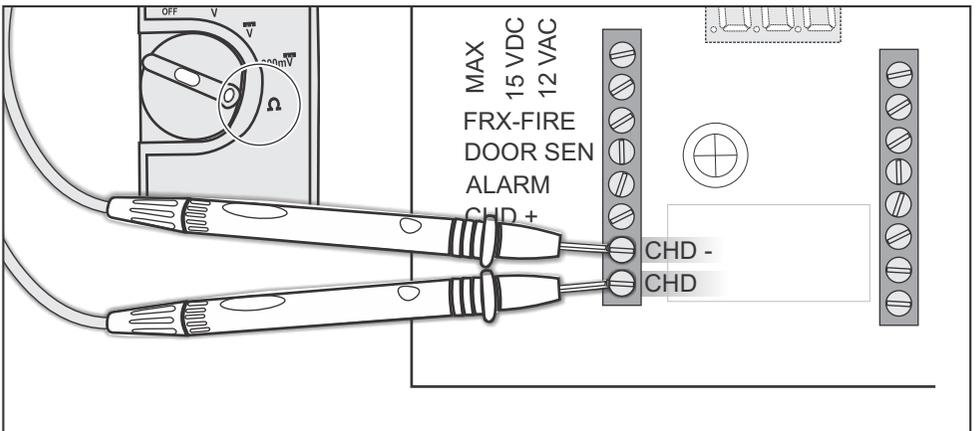

Figure 6 Multimeter connected to CHD- & CHD
2. Connect the multimeter to CHD- and CHD as indicated in figure 6.